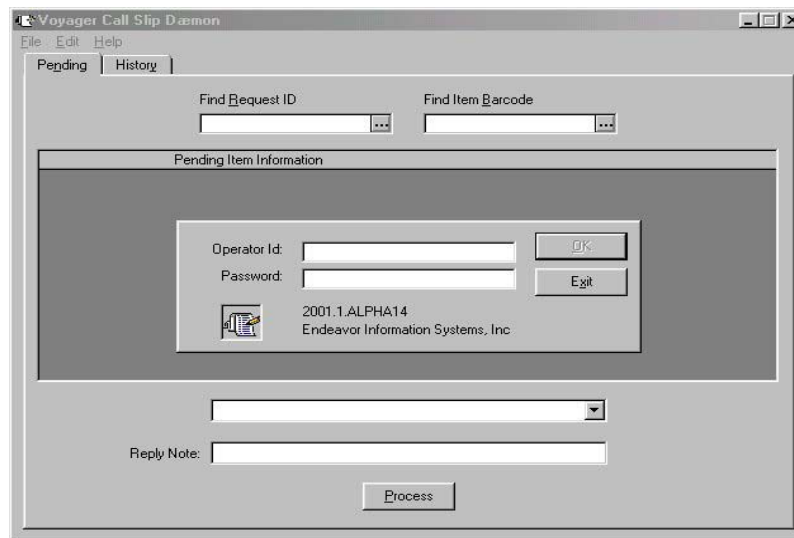

Figure 1-2. Call Slip Dæmon log-in window
1. Enter your **Operator ID** and **Password**. See Figure 1-2.